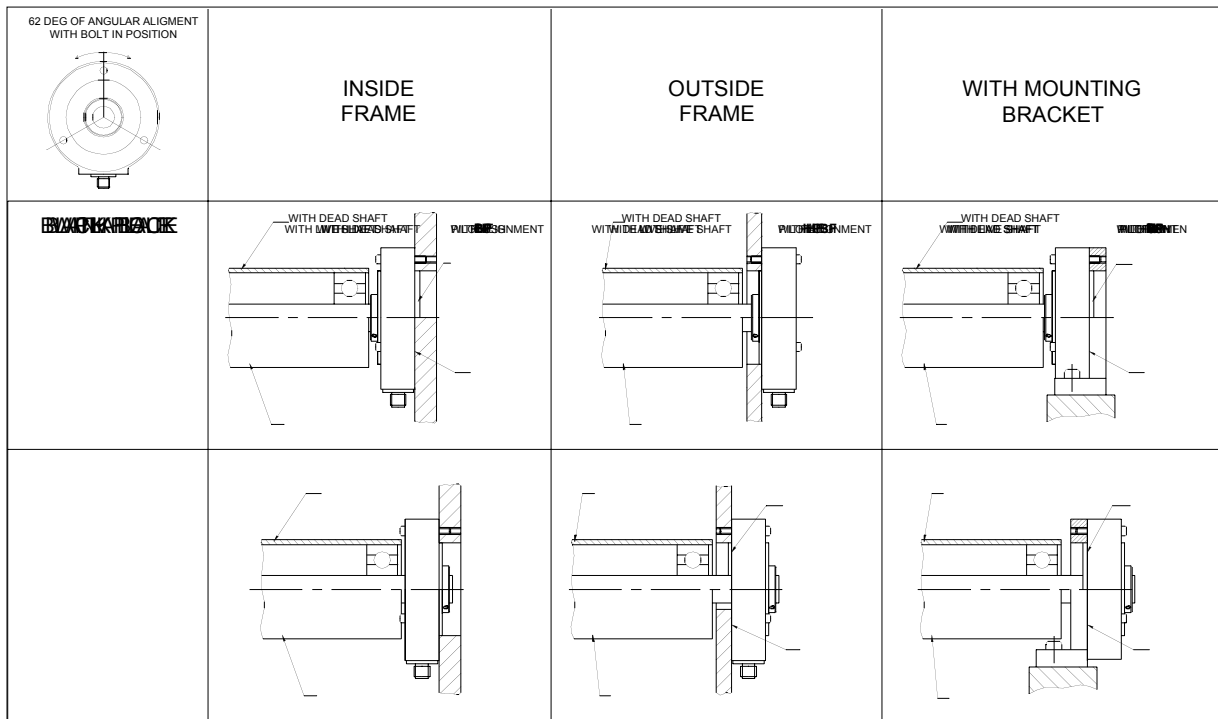

Figure 4
The SLIM CELL Transducer is very versatile and can be mounted in several mounting styles. If you have not decided which style to use, evaluate which is the most convenient, based on the machine frame, ease of assembly and protection. See **Figure 4**.
Note that the Slim Cell can be mounted on either side of the machine frame (see **Figure 4**). Determine the arrangement that best suits your application. The load cell is mounted in place with 3 bolts. Before drilling and tapping the mounting holes in the machine frame read the instructions below. (**Orientation and Mounting of the Slim Cell**) to insure that the Slim Cell is properly aligned. The holes should be located so that load cell can be mounted to achieve proper alignment. Refer to dimension B and M in Figure 2 for the proper bolt hole centers and bolt size. The bolt hole centers are evenly spaced on a circle and are 120 degrees from each other.
Determine the correct position for the mounting bracket. Note that the Slim Cell can be mounted on either side of the bracket. Refer to Figure 4. Determine the arrangement that best suits your
- When mounting a roll with a shaft that comes through the back plate (see **Figure 4**), push the adapter to the inside of the SLIM CELL before you tighten the set screws to allow for shaft expansion.